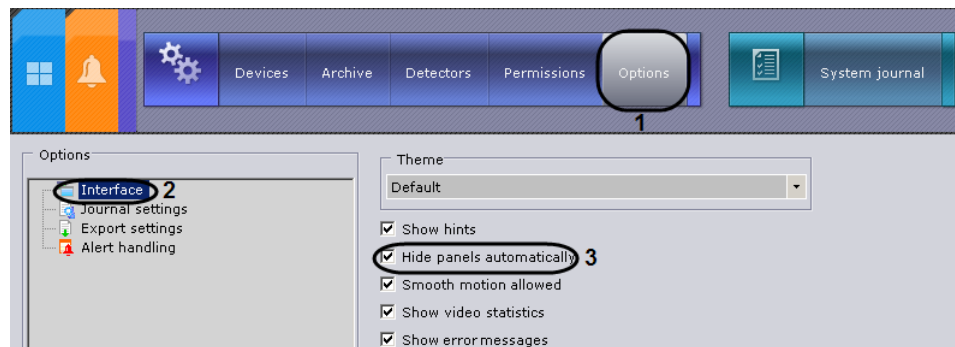

Fig. 6.6—4 Configuring autohide for panels
1. Go to **System settings**⇒**Options**⇒**Interface** (Fig. 6.6—4, 1-2).
2. Deselect the **Hide panels automatically** checkbox (see Fig. 6.6—4, 3).